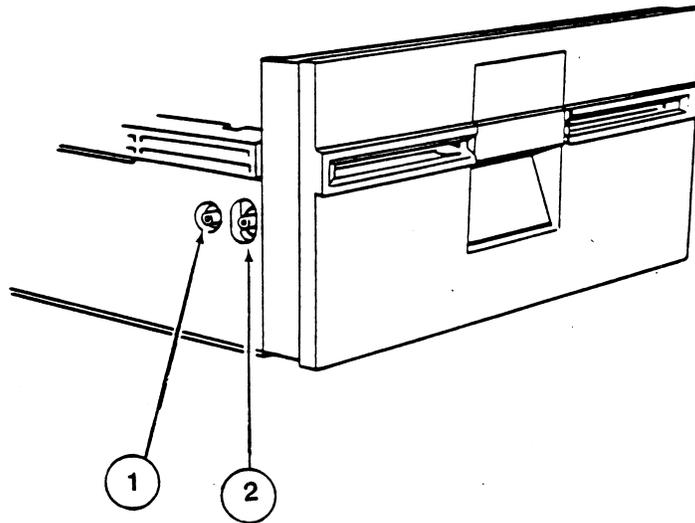

FIGURE 2
3. Note the two setscrews holding the write-protect switch in place (Figure 2, #1 & 2). The switch is located on the front left side of the drive as you face the drive door. The far setscrew (Figure 2, #1) forms a pivot for the switch; the near setscrew (Figure 2, #2) sets the switch position.
5. Loosen the rear setscrew. Then loosen the front setscrew (Figure 2, #2), raise up on it until the switch disables, and tighten the setscrew.
6. Tighten the rear setscrew (Figure 2, #1).
- 5.5 Internal Parts (Figure 2)
□ DISK III – INTERNAL PARTS (Figure 2)